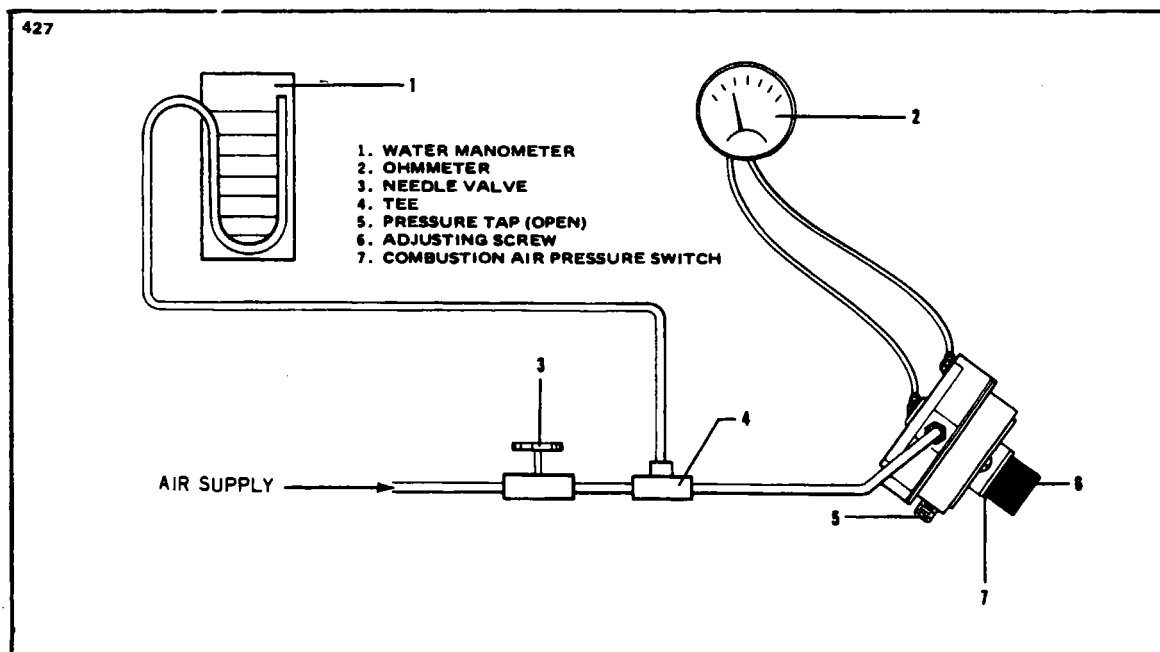

Figure 13-46. Test Setup for Combustion Air Pressure Switch
- a. Discard all rubber parts such as grommets, gaskets, etc. These items should always be replaced at overhaul. Also discard the rope gasket (31).
- d. The combustion air pressure switch (26) must respond to delicate pressure changes and should always be checked and/or replaced at overhaul. (Refer to paragraph 13-173, c, and Figure 13-46.)
1. Connect an adjustable air pressure line that can be controlled in a range of zero to 5.0 (maximum) of water to the switch opening with a water manometer and needle valve in the line ahead of switch. Switch must be tested in 45 degree position as shown in Figure 13-46.